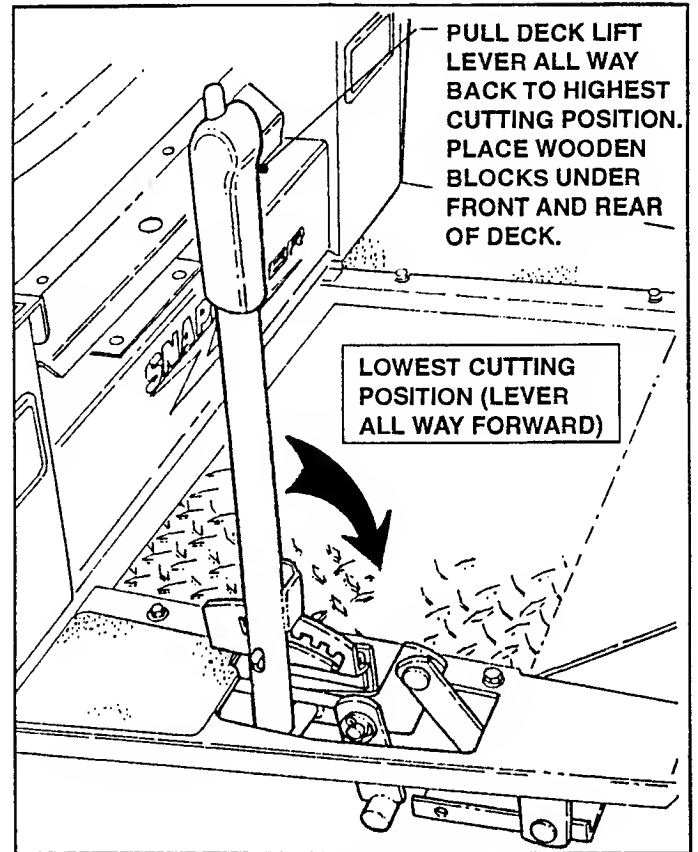

FIGURE 8.11
- A. Move Deck Lift Lever and set Mower Deck to highest cutting position. See Figure 8.11.
- C. Move Deck Lift Lever and set Mower Deck to a lower cutting position until Deck rests on wooden blocks. Refer to Figure 8.11.